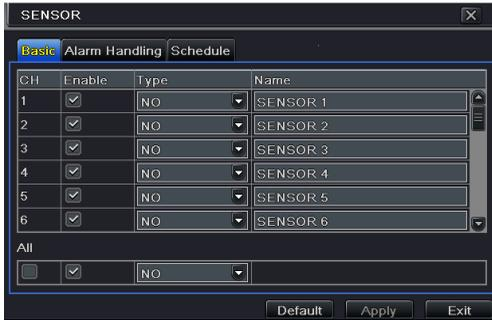

Fig 4-16 Alarm Configuration-Sensor-Basic
Step 1: Enter into Menu→Setup→Alarm →Sensor→Basic interface. Refer to Fig 4-16: